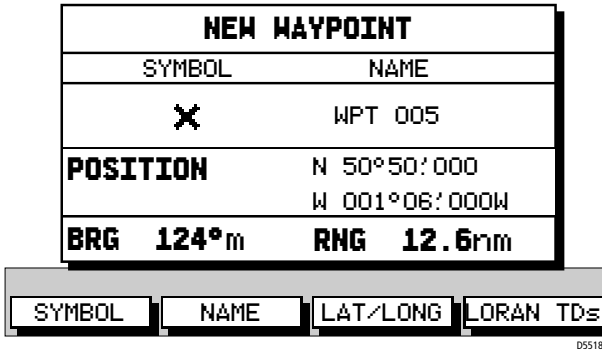

Figure 3-19: New Waypoint Screen
- Press the **MAKE NEW WAYPOINT** soft key; the New Waypoint screen is displayed, together with its associated soft keys, see *Figure 3-19*.